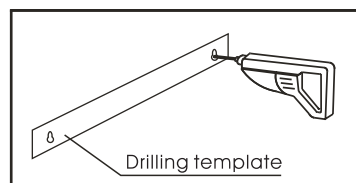

Fig. 4-2
7. Rest the drilling template against the wall: The vertical centre line printed on the drilling template must correspond to the centre line drawn on the wall. Drill $\phi 5/16"$ holes at the indicated positions(1 hole each at left and right).(Fig. 4-2)